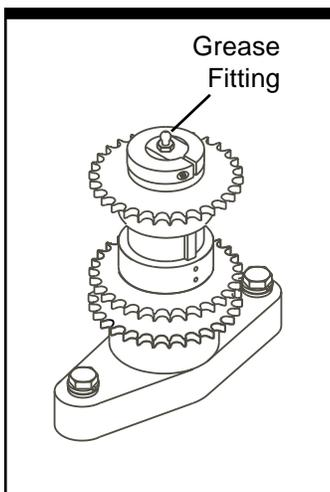
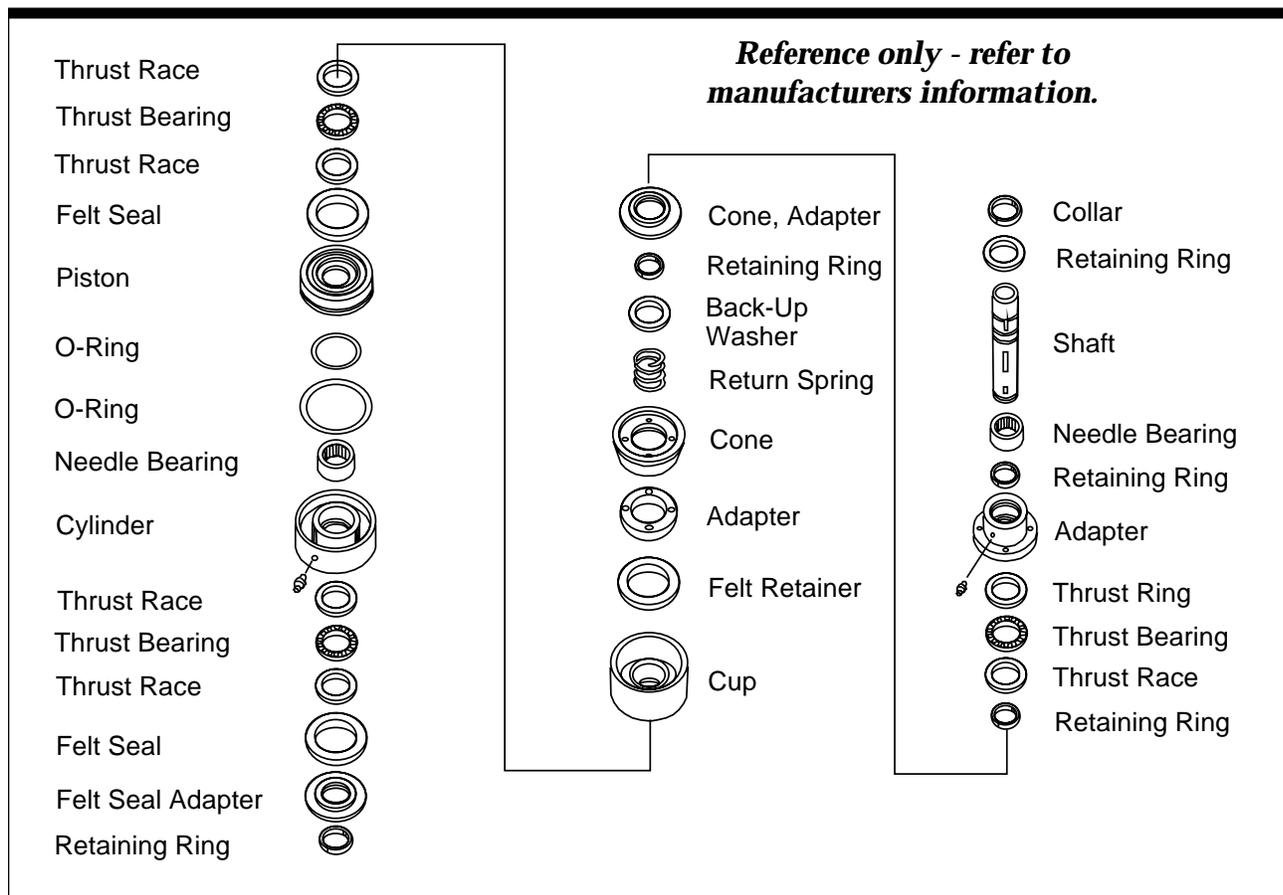
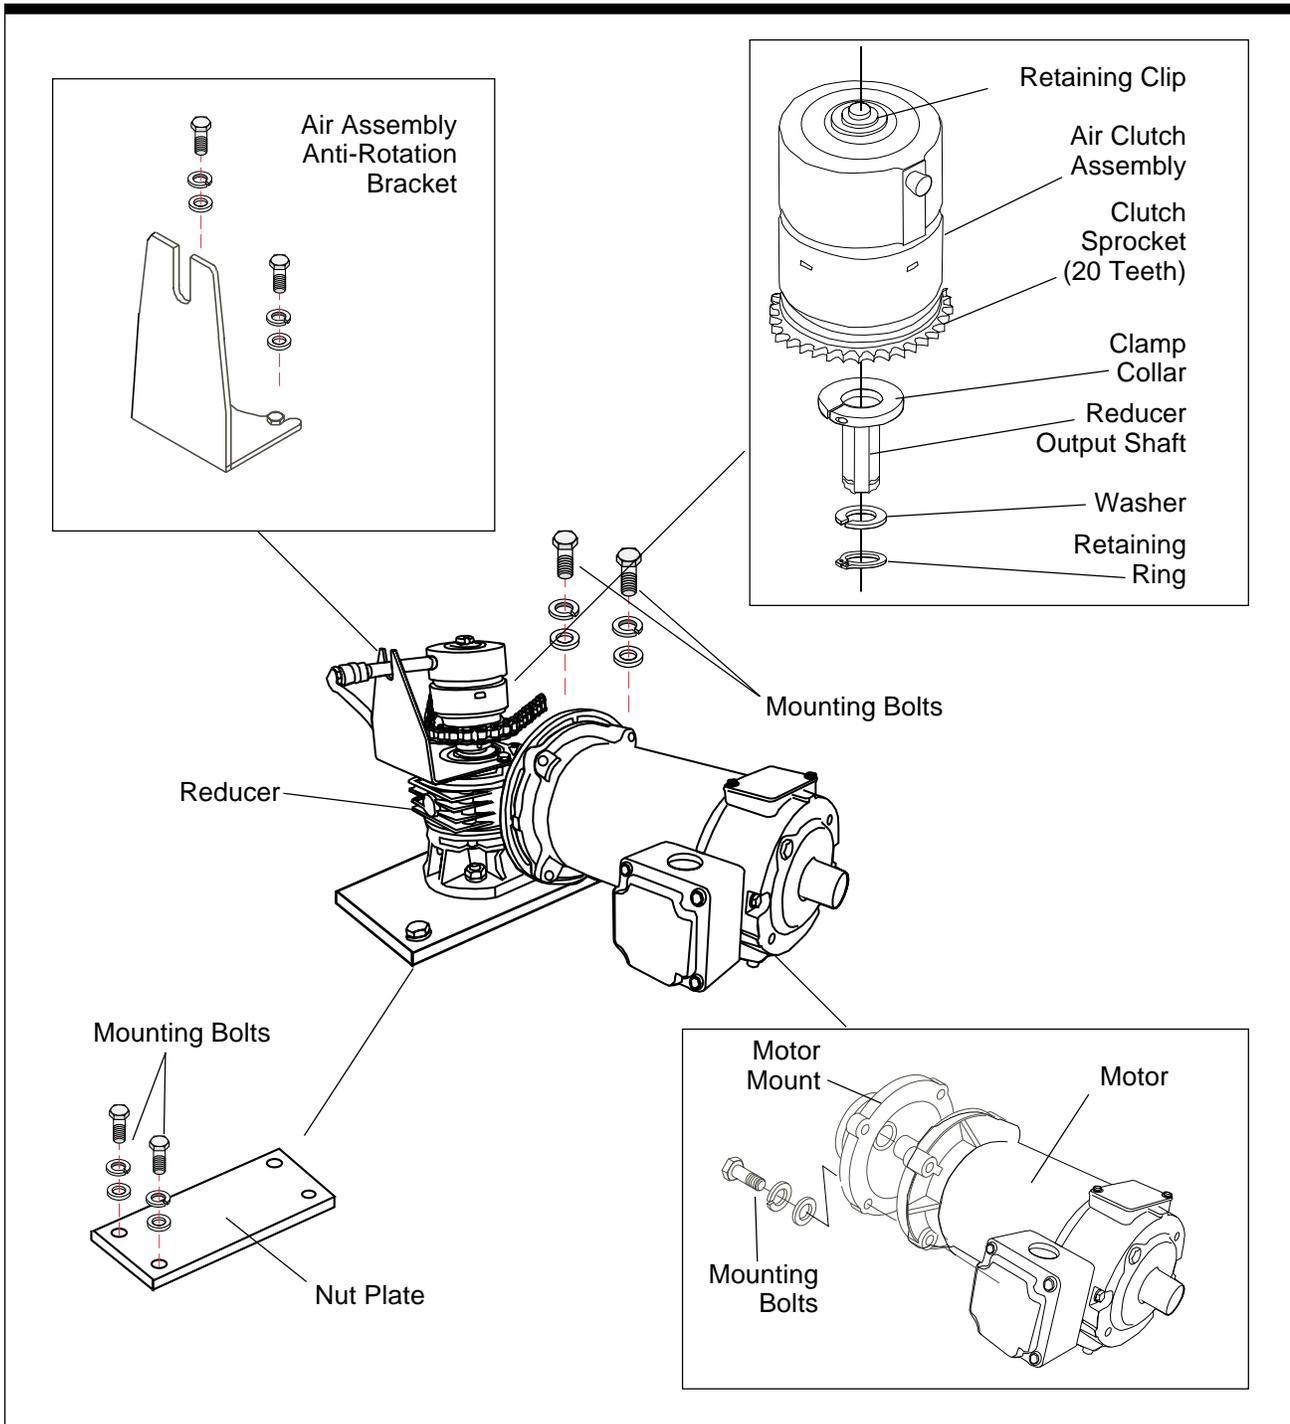

Figure 4-1. Idler Assembly
Figure 4-4. FS-30-RD Typical Clutch Assembly
Figure 5-3. FS-30-RD Air Clutch and Motor Assembly - Exploded View
▶ If adjustment is needed, adjust the disc drive chain first. Loosen the idler assembly (see *Figure 4-1*), move the chain forward or back as necessary, and then retighten.
It's recommended that you grease the idler assembly (refer to Figure 4-1), for both metric and ANSI models, every six (6) months after installation. Note the order of assembly (see Figure 5-3).
To disassemble the clutch, refer to the air clutch manufacturer's technical information (see Figure 4-4).
Step 6 – Assemble the Output Shaft/Air Clutch. The output shaft on the speed reducer is removable and is available as a separate kit. If replacement is required, clean both contact surfaces before assembly and apply any appropriate anti-seize compound to avoid oxidation (rust) and possible seizing of the parts (refer to the manufacturer's technical information sheets that correspond with the output shaft on your equipment.) Slide the air clutch assembly down onto the reducer output shaft (see Figure 5-3) until it bottoms out against the shoulder. Tighten the setscrew. The speed reducer used in the FS-30-RD is lubricated for life with synthetic lubricant and requires no filling before use.
Step 3—Begin Air Clutch Replacement. Note the order of the components before replacing the unit (refer to Figure 4-4 and Figure 5-3). Disconnect the air supply, anti-rotation bracket, shaft retaining bolt and setscrew.